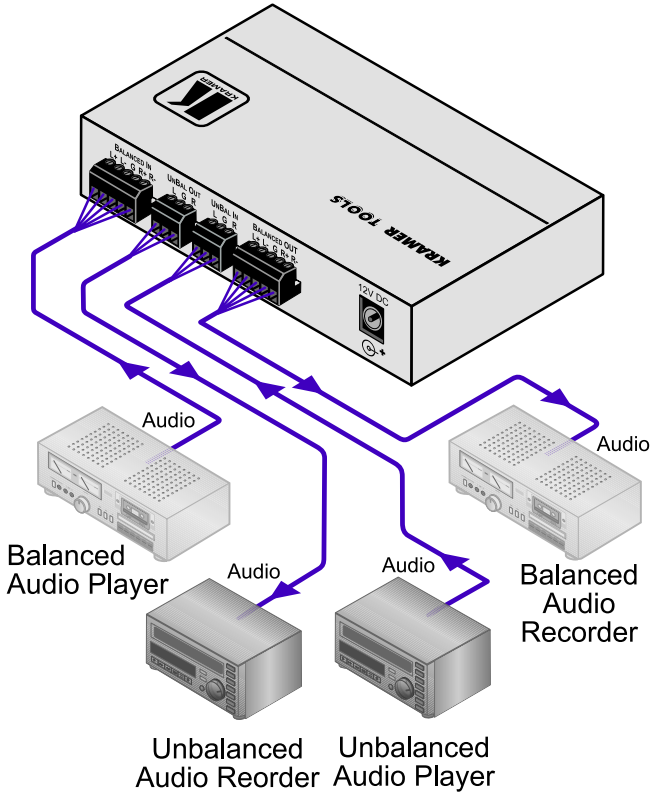

Figure 2: 482xl Bi-directional Audio Transcoder Connections
| Figure 2: | 482xl Bi-directional Audio Transcoder Connections | 6 |
To convert the audio input signals at the UNBAL IN² and the BALANCED IN³ connectors, as the example illustrated in Figure 2 shows, do the following:
5. Connect the 12V DC power adapter to the power socket and connect the adapter to the mains electricity (not shown in Figure 2).